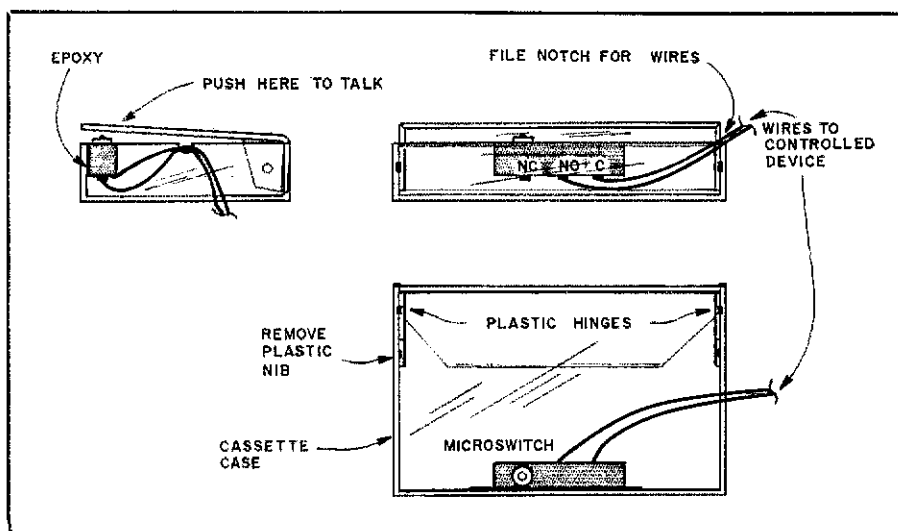

Fig 4—Harold Keenan's foot switch is based on a cassette-tape case and a microswitch.
□ An inexpensive PTT switch can be built quickly from a plastic cassette case and a microswitch, as shown in Fig 4. Wire the switch first. Next, file a notch in the side